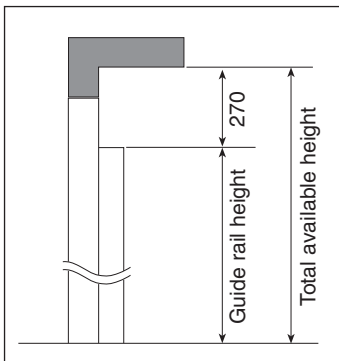

Fig 7
- b. Where only limited headroom is available guide rail length equals total available height less 270mm. (see Fig 7).